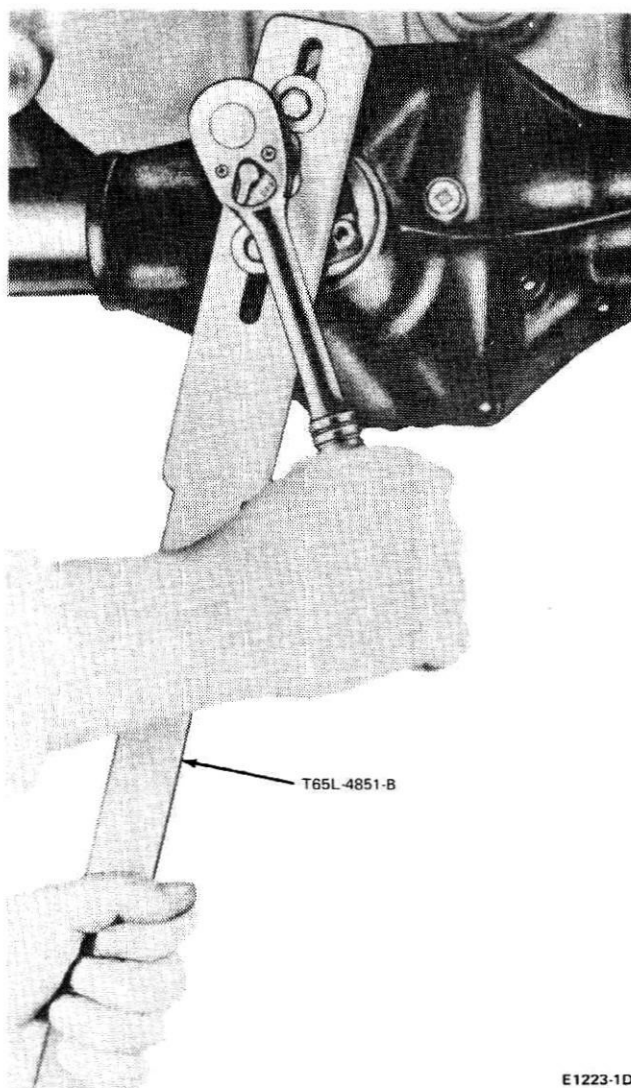

FIG. 8 Typical Drive Pinion Flange Removal
6. Using the tool shown in Fig. 8, remove the pinion U-joint flange.